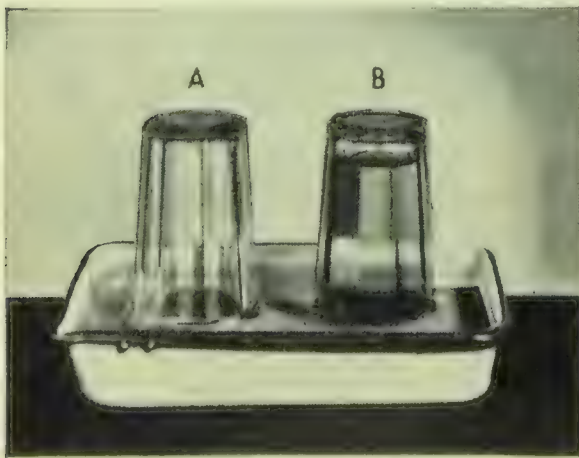

FIG. 19. Apparatus for Problem 2
2. In Figure 19 the two tumblers are standing in a pan of water. Tumbler B has water in it, while Tumbler A has only air in it. How could you fill Tumbler B with air and Tumbler A with water without